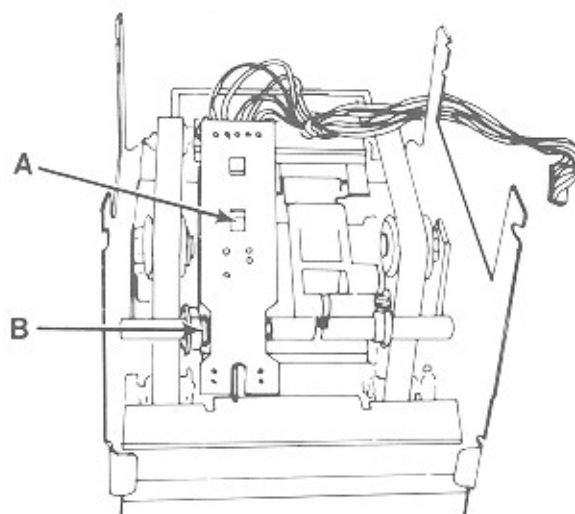

Figure 4-10B. Mounting The Cell Assembly
3. Check to see that the catch is hooked over the board (A) and the board is setting in the recessed area on the shaft (B). See *figure 4-10B*.